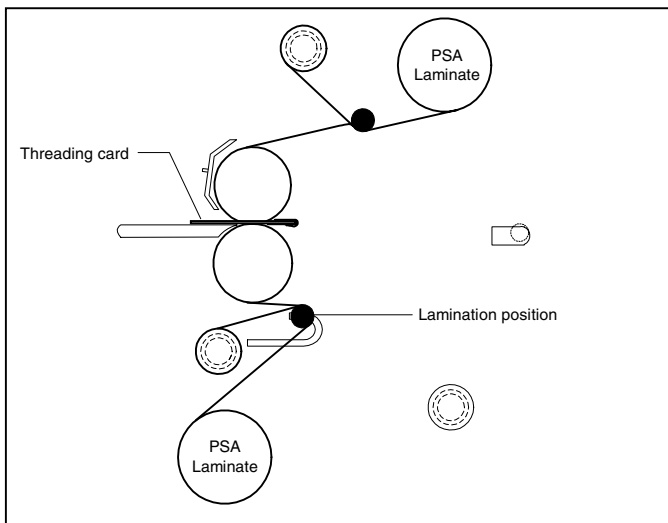

Fig. 23
10. Pivot the table back to its feeding position while ensuring the threading card is on top of the feed table (Figure 23).